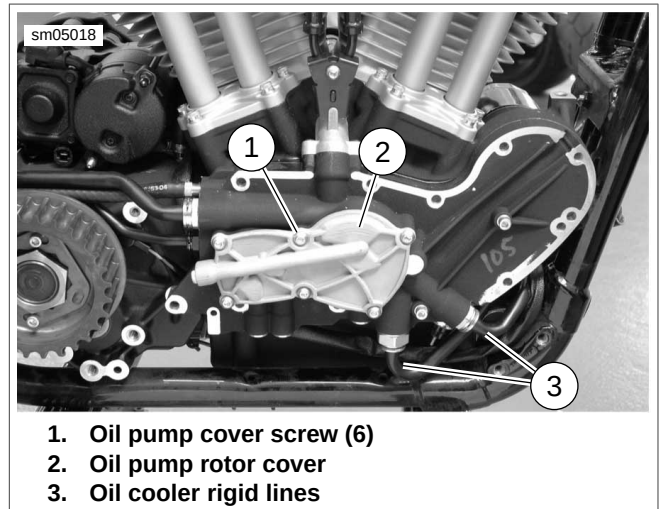
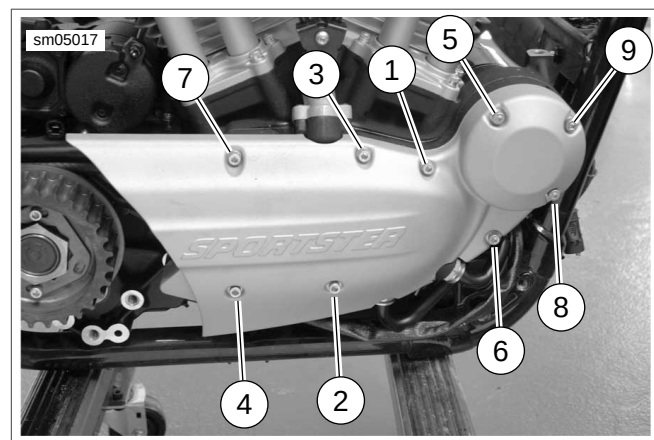

Figure 3-170. Oil Pump Rotor Cover: XR Models
Figure 3-174. Oil Pump Cover Torque Sequence: XR Models
4. See Figure 3-170. Remove oil cooler rigid lines (3) from gearcase cover. See 3.14 PRECISION COOLING SYSTEM: XR MODELS, Oil Pump Lines.
5. Remove six screws (1) and remove oil pump cover (2). Discard cover o-rings.
5. Install each outer rotor (1) in its original location.
6. Install each inner rotor (2) in its original location.
7. See Figure 3-170. Install **new** o-rings in oil pump rotor cover and install cover using six fasteners (1). Tighten fasteners to 80-110 **in-lbs** (9.0-12.4 Nm).
8. Install oil cooler rigid lines (3) to quick connect fittings. See 3.14 PRECISION COOLING SYSTEM: XR MODELS, Oil Pump Lines.
9. See Figure 3-174. Install oil pump/cam support housing cover. Secure with 9 socket fasteners. Tighten in the sequence shown to 80-110 **in-lbs** (9.0-12.4 Nm).